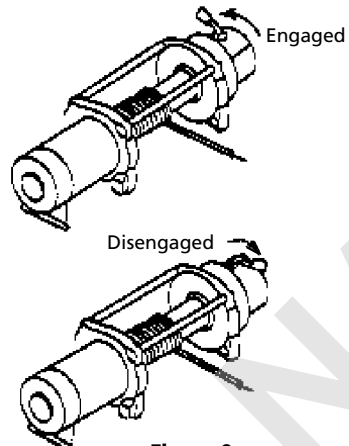

Figure 9
**Step (5)**
(See Figure 9) Set the freespool clutch knob to the "Disengaged" position. If there is a load on the wire rope the clutch knob may not move easily. **DO NOT FORCE THE CLUTCH KNOB.** Release tension on the clutch by jogging out some of the wire rope. Pull several feet of wire rope off the drum. Return the clutch knob back to, "Engaged" position. Activate the winch in Cable Out momentarily to check drum rotation direction. If the drum rotates in the wrong direction, recheck your wiring. Release the clutch and pull out the wire rope and secure to anchor or load. Check that there are least five (5) turns of wire rope left on the drum. Re-engage the drum by returning the clutch knob to the "Engaged" position.